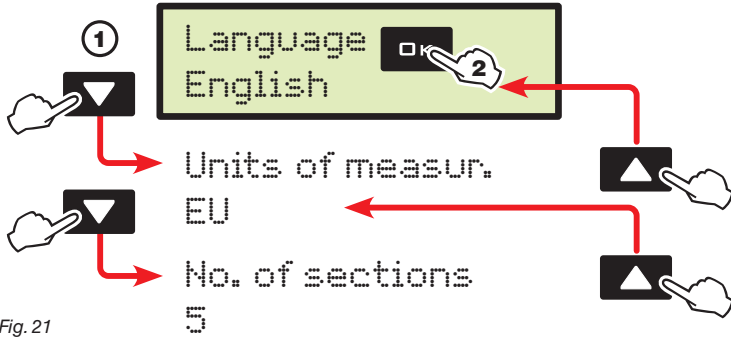

Fig. 21
- 1 Press the arrow keys in succession to move across the menu items. (▼ next item, ▲ previous item); the selected item will be displayed (Fig. 21).